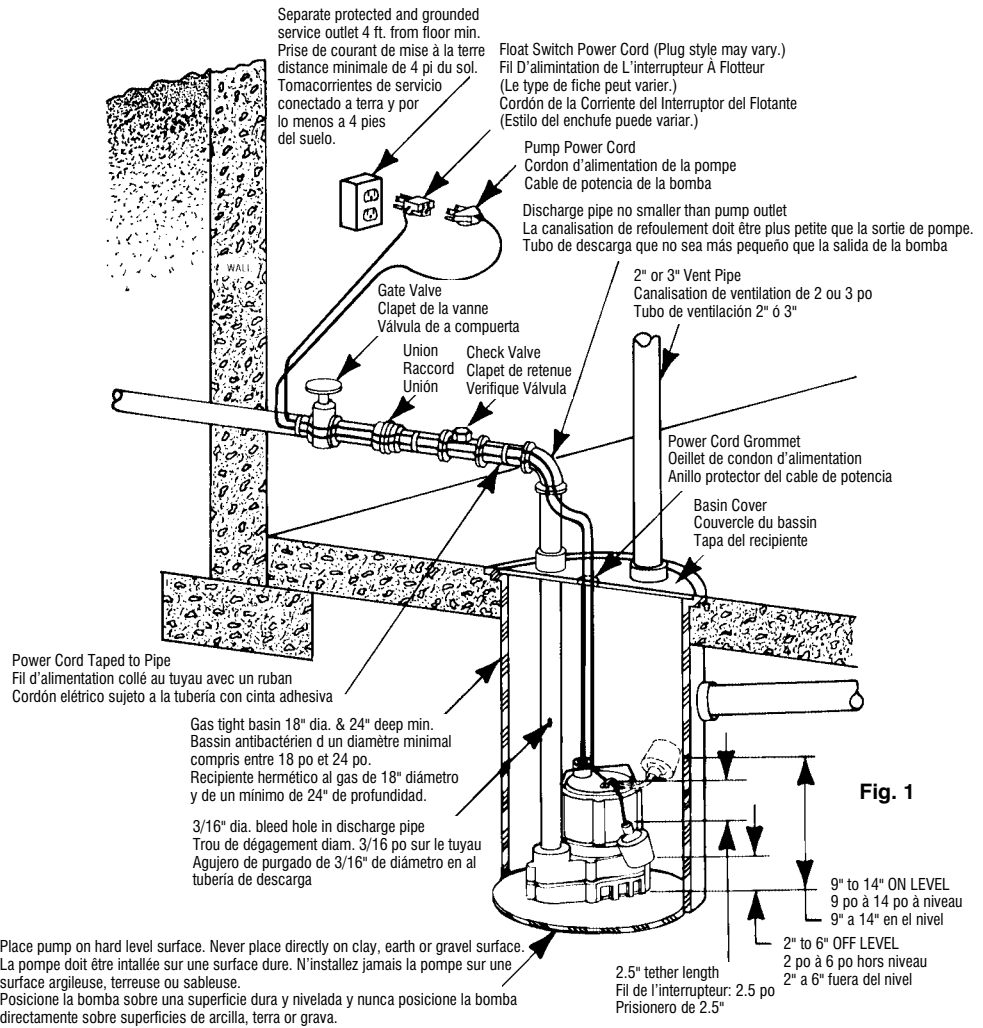

Fig. 1
- Attach cord clamp to pump cover as shown in Fig. 1. The clamp must be positioned as shown to allow free operation of float. Be sure to locate pump and switch power cords away from switch float.
- A 2-1/2" tether length is recommended. When a tether length of 2-1/2" is used, a minimum basin diameter of 18" is recommended. The tether length is measured as shown in Fig. 1.